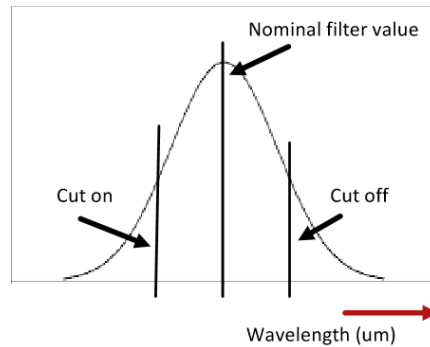

Figure 2 – Narrow Band Infrared Filter Diagram
**CWL:** Centre Wavelength (Nominal filter value per Figure 2).
**FWHM:** Full Width Half Maximum (Cut on to Cut off per Figure 2).